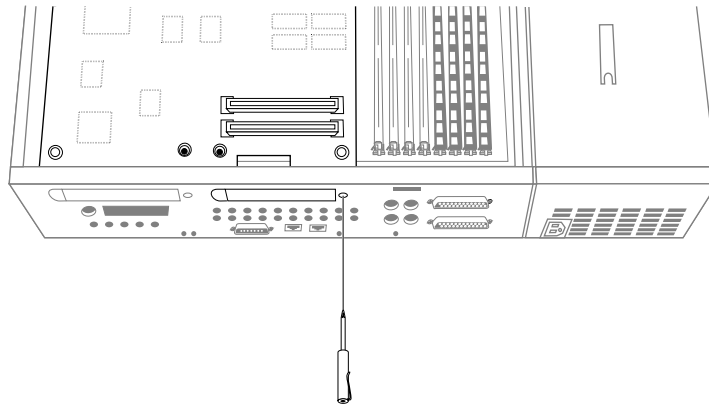

Figure 4-4 Removing the screws from the I/O port face plate
3. Using the screwdriver included in the option, remove and discard the screw from the face plate covering the GIO option port on the rear of the chassis where you are installing the board, as shown in Figure 4-4. Save the face plate in case you remove the board in the future.